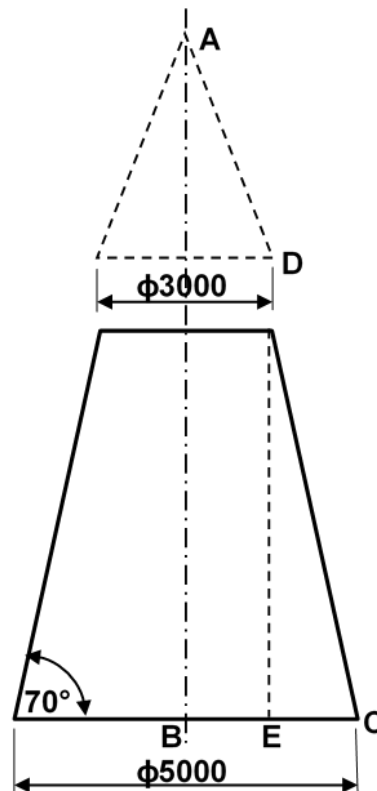

FIGURE 11.2
11.2 FIGURE 11.2 below indicates a conical hopper.